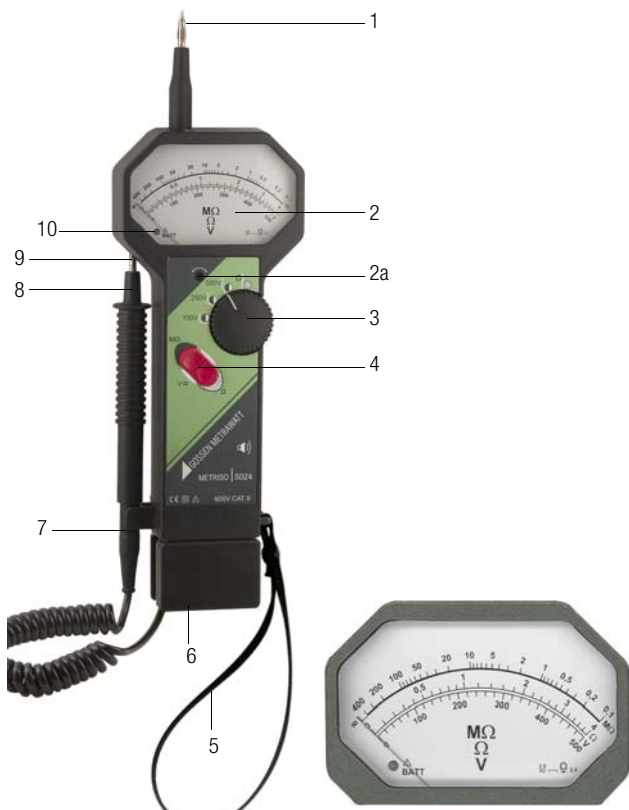

Figure 1 Controls
Thanks to its design and the use of two-hand operation (Figure 1), the device is well suited for safe, daily use. It can be secured against dropping with the attached carrying strap.
- Toggle switch for function selection (4)
- Rotary switch (3)
Measured values are displayed at three analog scales (2). Figure 1 shows these scales in detail. Insulation resistance is displayed at the
uppermost scale, low-resistance at the middle scale and voltage at the bottom scale. The device's operating status and battery charge level are indicated with the 2-color LED in the scale (Figure 1). The battery compartment is located in the housing base (6). The procedure for replacing batteries is described in 3.2.